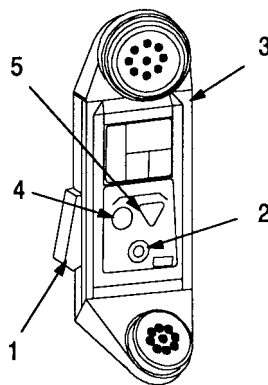

Figure 1-10. HRCRD Controls
b. HRCRD (figure 1-10).
- (1) Transmit Key (1). Allows operator to transmit when key depressed.
- (2) Light Button (2). Turns on back light with one press of round light button. Second press of button turns back light off.
- (3) Volume Wheel (3). Adjusts level of audio volume by using thumb wheel on side.
- (4) Select Button (4). Pressing SEL button toggles HRCRD through CHAN, COMSEC, RF PWR, and MODE functions of HRCRD and radios. Each press of button advances one function.
- (5) Down Arrow Button (5). Pressing down arrow button toggles HRCRD and radios to specific item in each category.